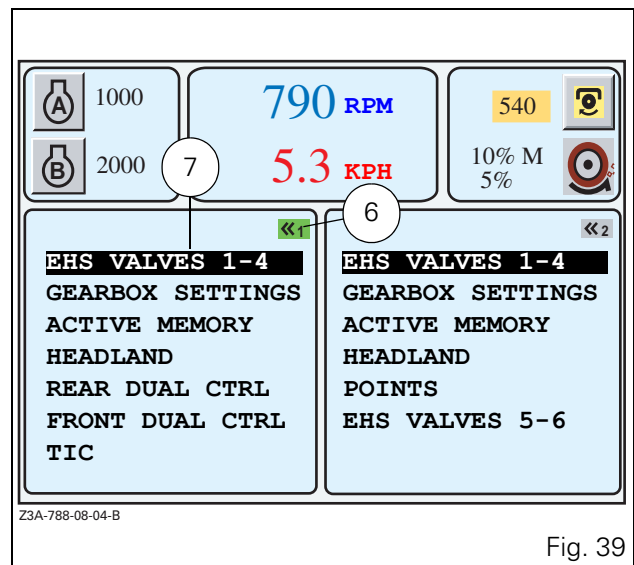

Fig. 39
- To display this menu, press key \llcorner_1 twice. The first press selects the window and the second press displays the list if no application was activated previously. On colour screens, the active window is indicated by the green icon at the top right-hand of the window (6 Fig. 39), and on b/w screens the active window is indicated by the same icon in reverse video.
- To select the EHS VALVES 1-4 menu, select the application with the encoder. The selected application is displayed in a black frame (7 Fig. 39).